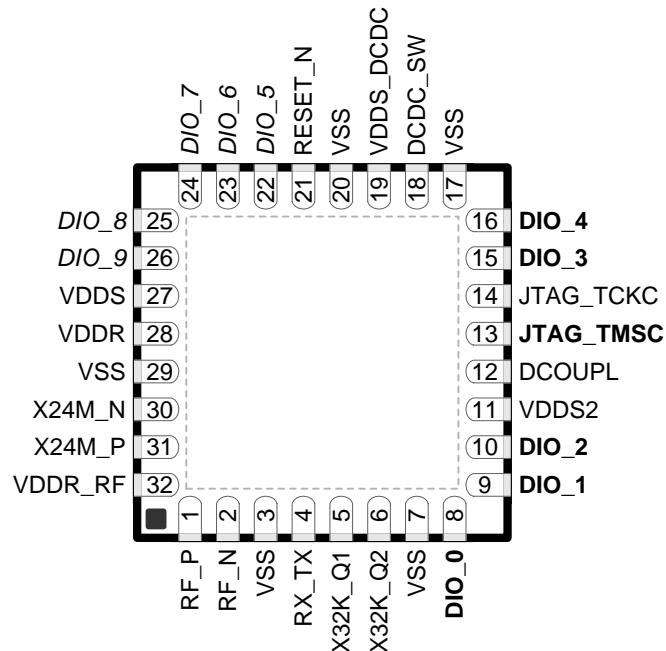

Figure 4-1. RSM (4-mm x 4-mm) Pinout, 0.4-mm Pitch
• Added <a href="#">Figure 4-1</a> .....	8
Figure 4-1 shows the RSM pinout diagram.
I/O pins marked in Figure 4-1 in **bold** have high-drive capabilities; they are as follows:
I/O pins marked in Figure 4-1 in *italics* have analog capabilities; they are as follows: